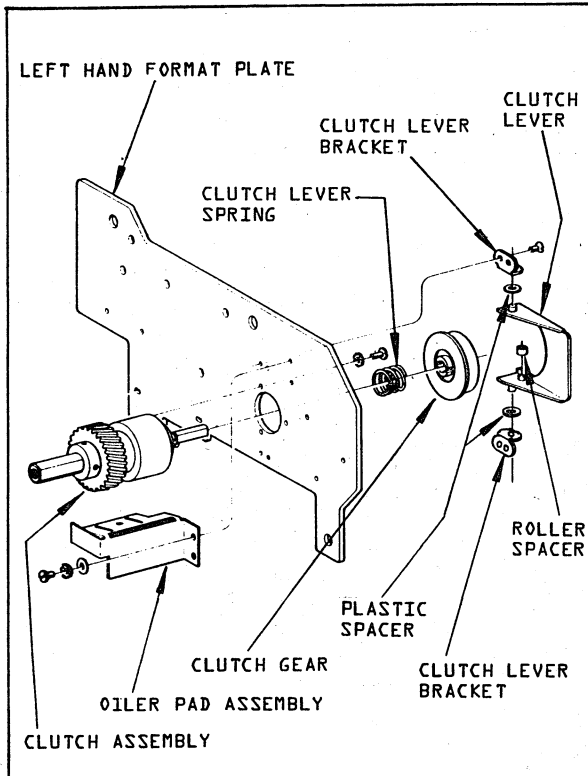

FIGURE 8-11. CLUTCH ASSEMBLY REPLACEMENT
Removal (Figure 8-11)
Installation (Figure 8-11)
1. Reversing the removal procedures, install the new clutch assembly. Use Figure 8-11 to aid with the installation.